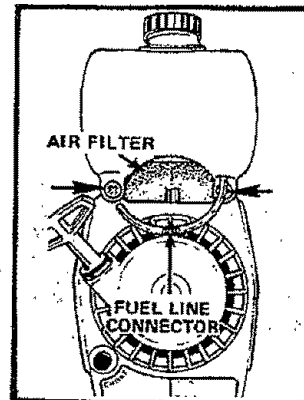

Figure 17
1. Remove the air filter. See Figure 17, page 12.
3. Remove two (2) screws and two (2) washers from fuel tank. Figure 17.